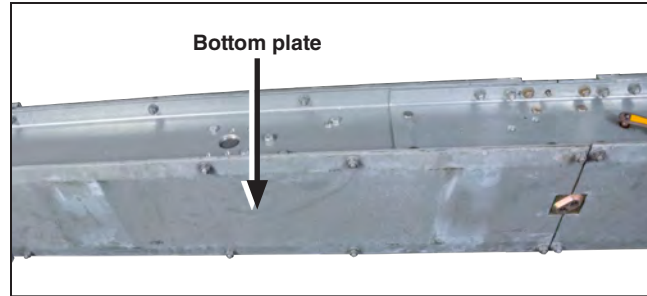

Figure 7. Remove bottom plates from high-speed base
STEP 1. Loosen the $\frac{1}{2}$ — $13 \times 1\frac{1}{4}$ -inch galvanized steel cap screws, flat washers, and nuts used to attach the bottom plates to the underside of the high-speed base. Remove the plates and place them and their hardware aside on a clean surface. See Figure 7.